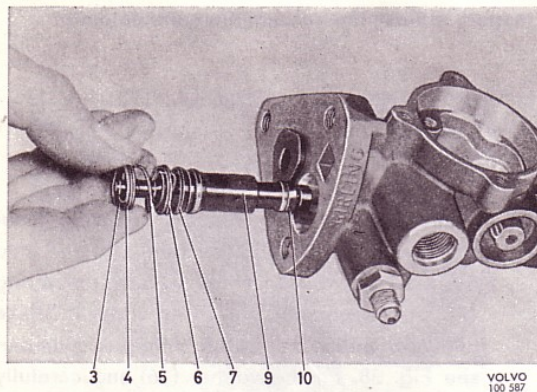

Fig. 39. Fitting the control plunger.
2. Place the seals (7 and 10) on the control plunger and turn them as shown in the figure. Fit the washer, spring and locking washer (3). Dip the plunger in brake fluid and fit it, see Fig. 39. Turn the plunger so that the valve arm can be fitted in its hole.